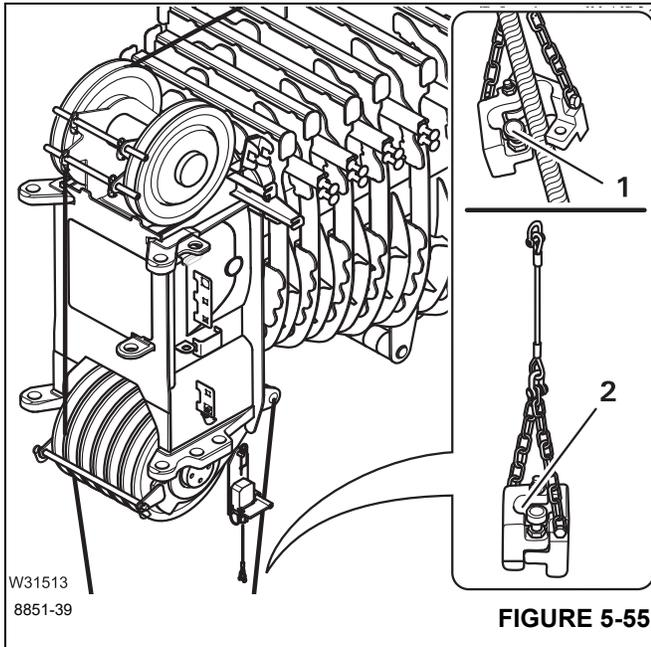

FIGURE 5-55
- Pull the safety pin (1), (Figure 5-55) out and fold the two halves of the weight apart.
- Pull the safety pin (1), (Figure 5-55) out, fold the two halves of the weight back together and let the safety pin engage.
- Remove the anti-two block switch weight (2), (Figure 5-55).